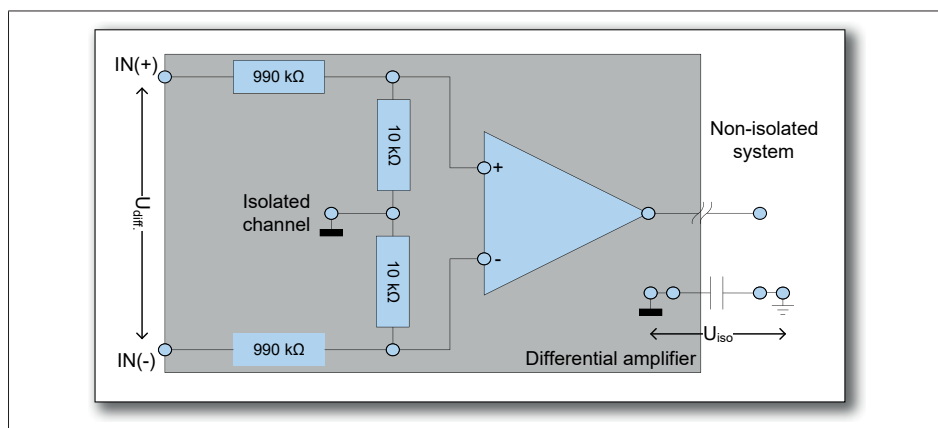
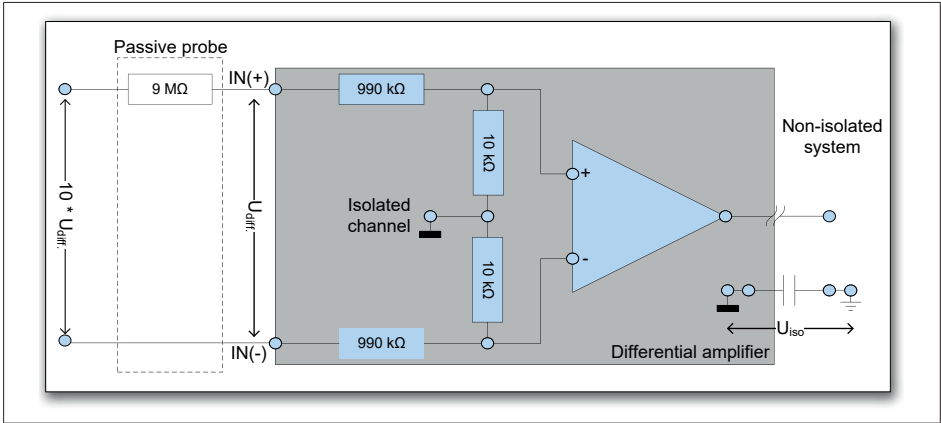

Fig. 12.37 Isolated balanced input channel
Fig. 12.38 Isolated balanced input channel with passive probe
- The isolated ground is not externally accessible, as shown in Fig. 12.37.
Looking at Fig. 12.37, the GN610B/GN611B specifies $U_{IN(+)}$, $U_{IN(-)}$ and $|U_{iso}| \leq 1 \text{ kV}$. Using a standard passive 10:1 probe, combined with the GN610B/GN611B results in the situation shown in Fig. 12.38.